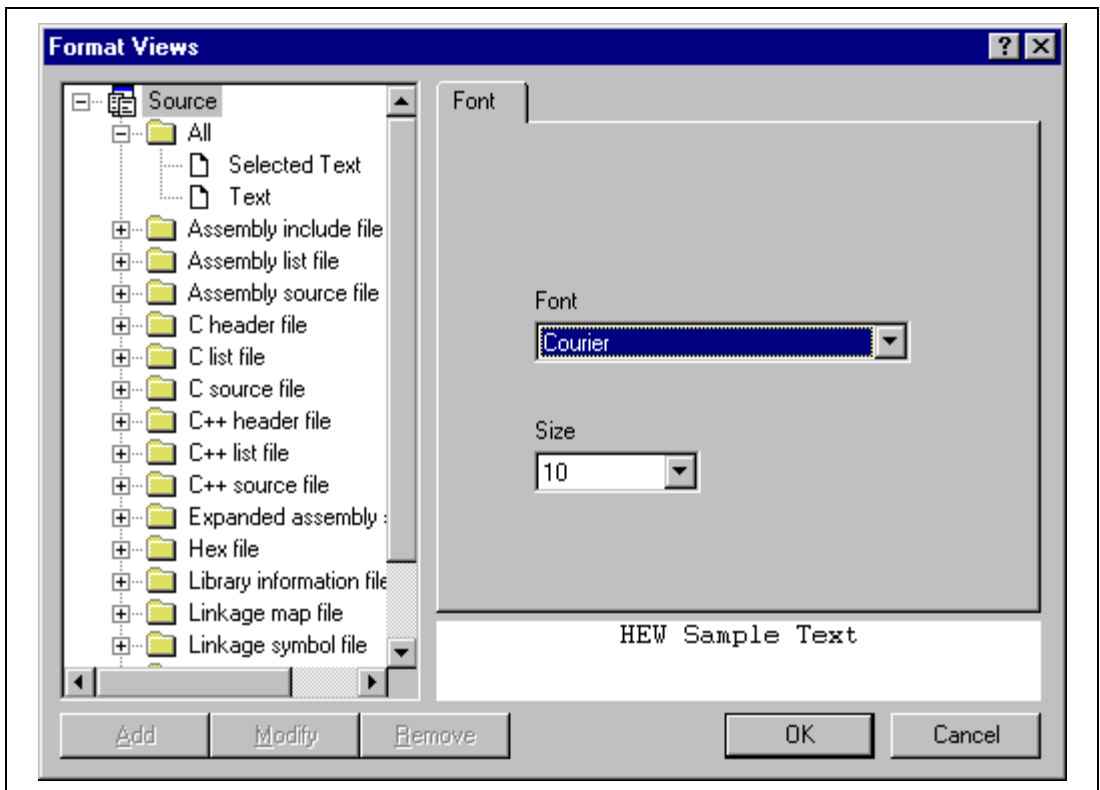

Figure 4.10: Format Views Dialog Font Tab
1. Select [**Tools->Format Views...**]. The “Format Views” dialog will be displayed. Select the Source icon in the * MERGEFORMAT tree (figure 4.10).